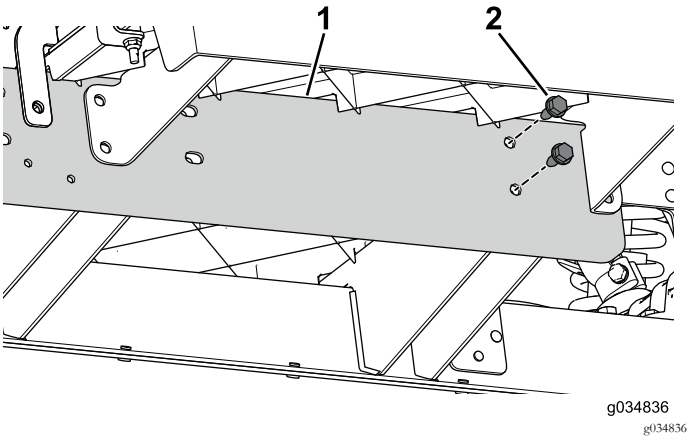

Figure 23
- Use the 2 bolts (5/16 x 3/4 inch) to loosely install the extension rail to the center channel at the front section of the machine (Figure 23).